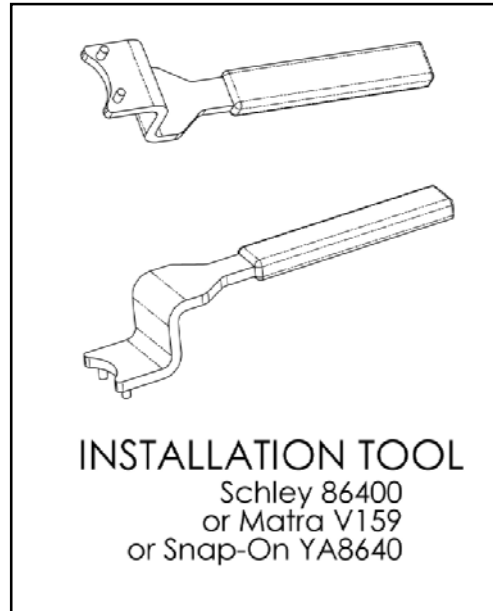
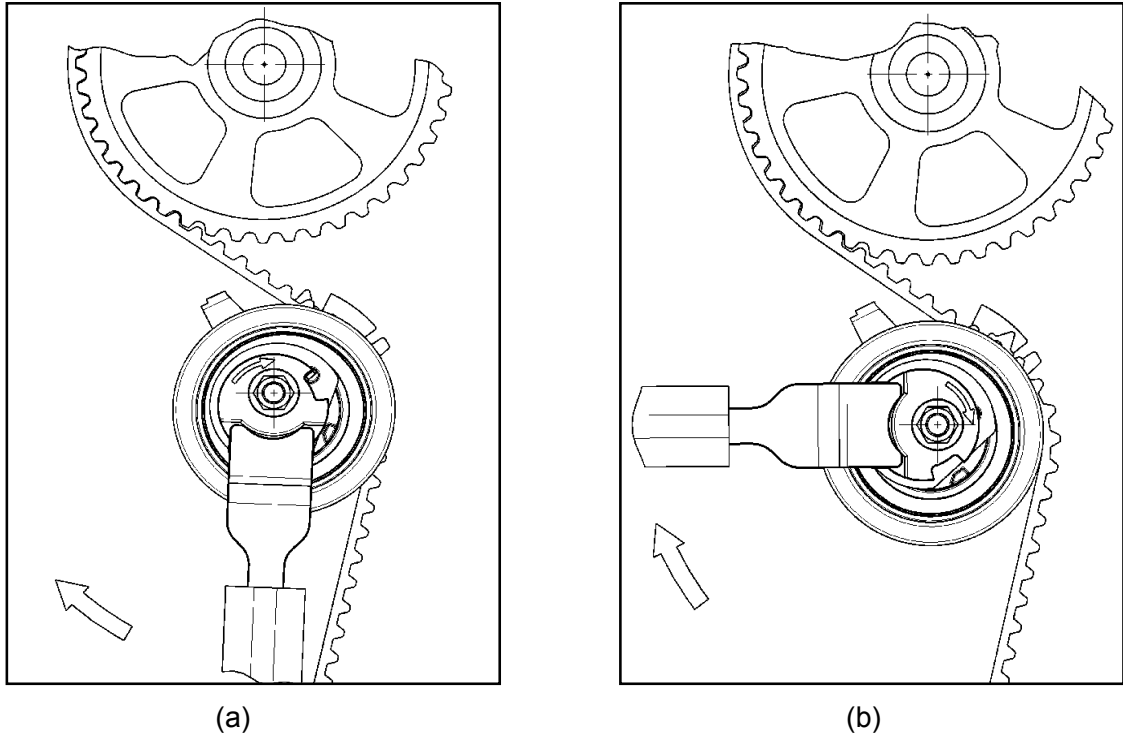

Figure 5: 2-PIN
Figure 7: The Arm Pointer Moves to Nominal Position while Rotating the Installation shaft
8. Engage the installation tool, either 2-pin (Figure 5) or 6mm Hex Key, with the installation shaft, and rotate it **clockwise** while preventing the rotation of the flanged mounting nut with a 13mm wrench. The tensioner will move against the belt and the Arm Pointer will eventually start to move clockwise, Figures 7 (a) and (b).